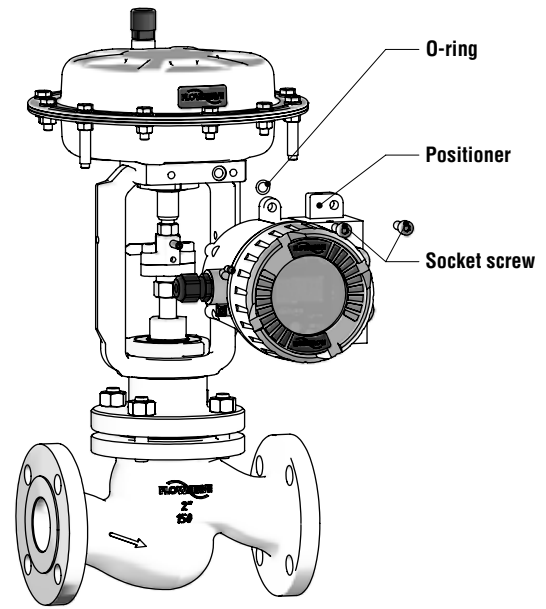

Figure 7: Remove the positioner
2. Disassemble the positioner from the valve as necessary (See Figure 7: Remove the positioner).